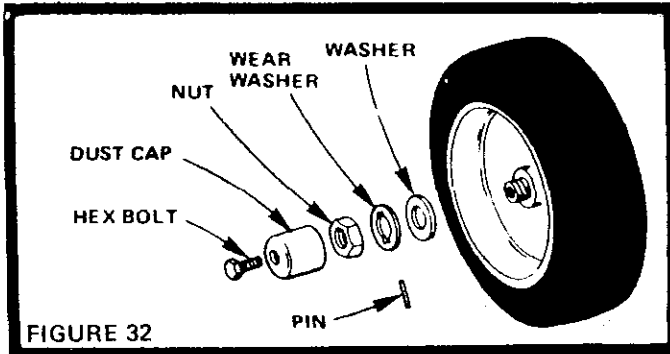

FIGURE 32
- d. Removing front wheel for tire repair (Fig. 32).